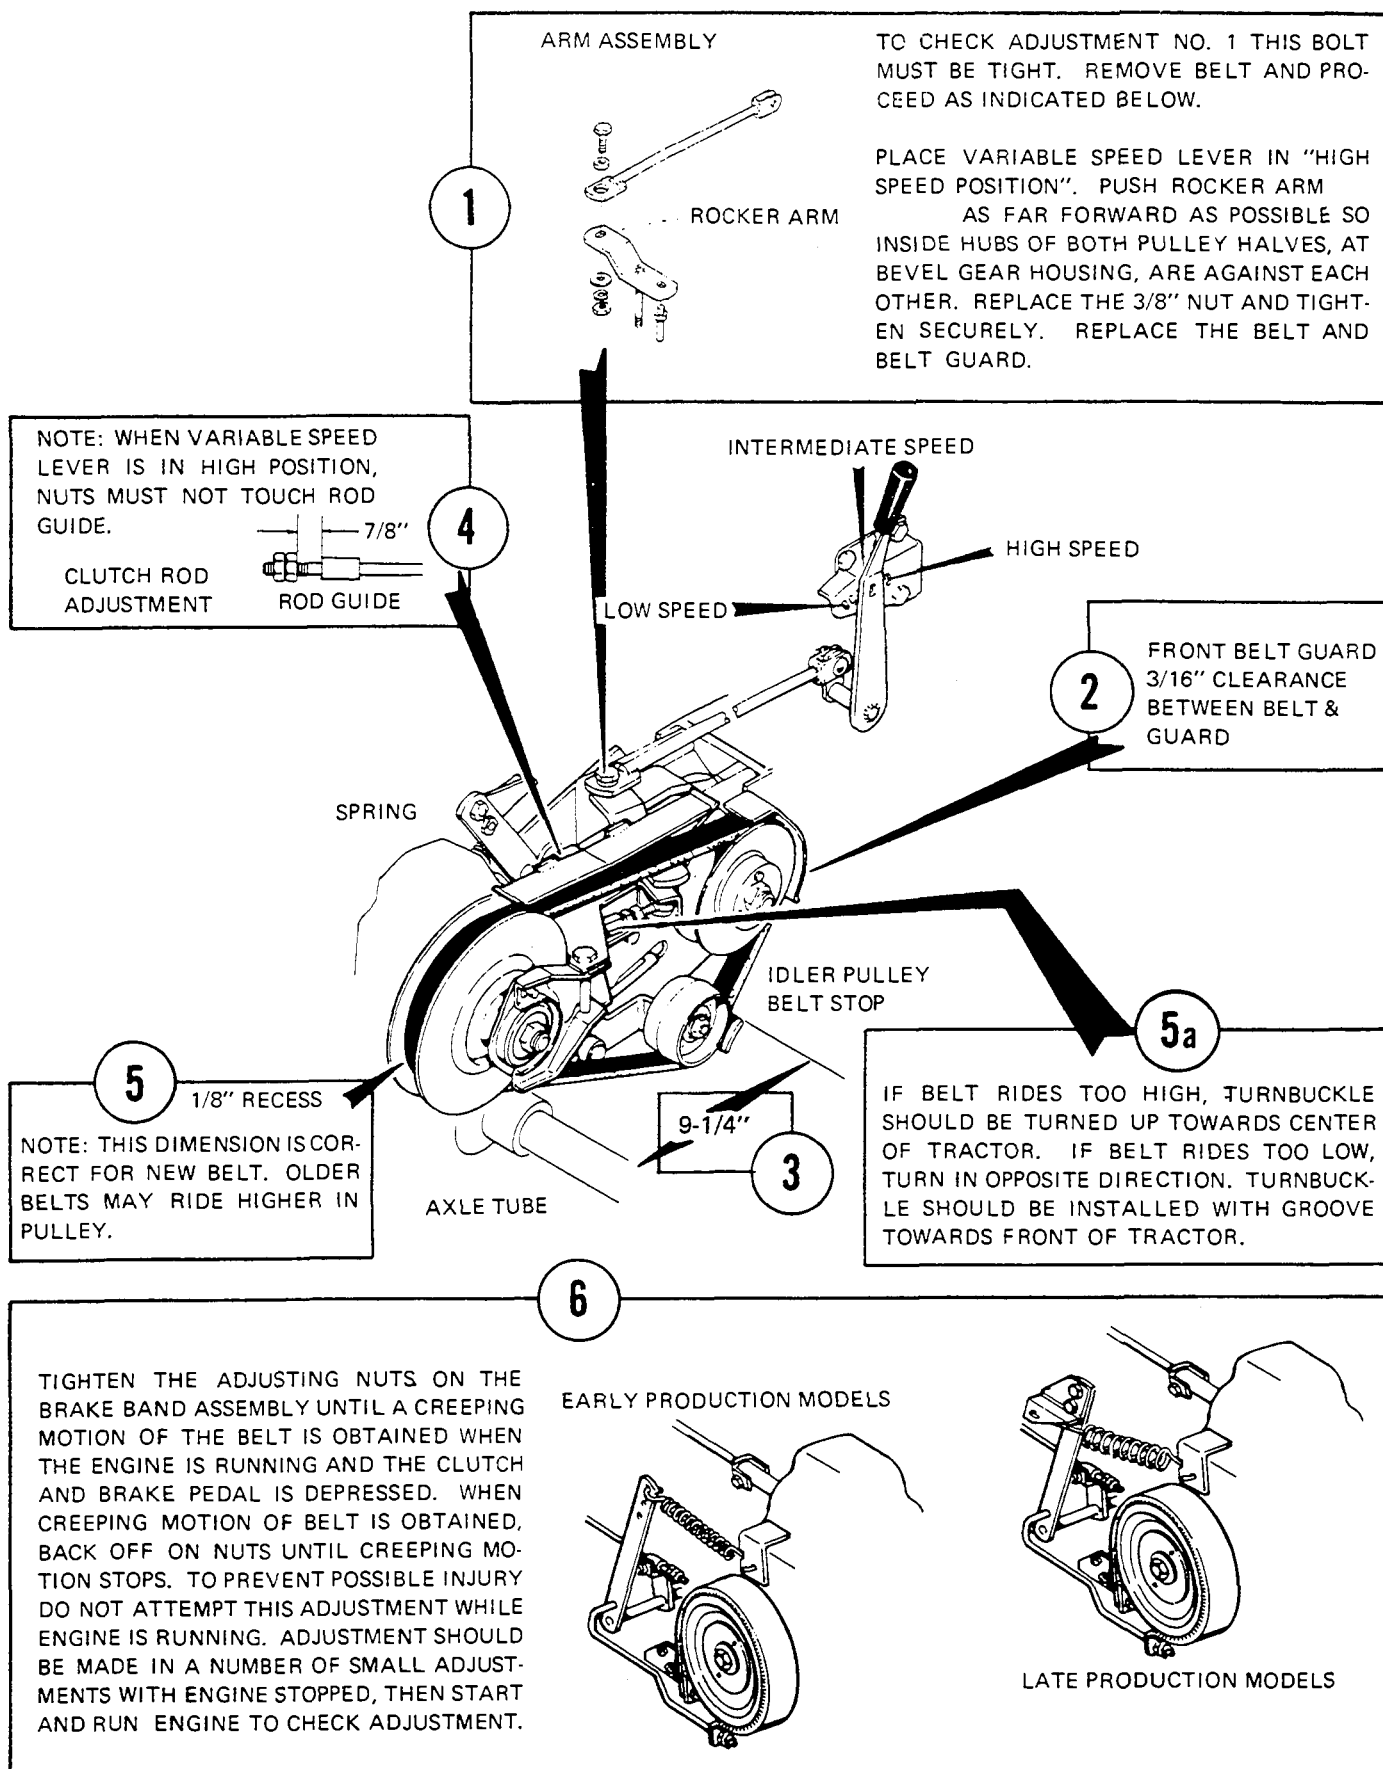

FIGURE 3
4. On early production models the spring is normally in the top hole. If less spring tension is desired, move spring to next lowest hole of pivot lever assembly. Less tension can be used when mowing on level terrain and if clutch pedal is found to be uncomfortably hard for the operator to depress. (See Fig. 3.) Greater belt tension is necessary to prevent variable speed belt from slipping when tractor and attachment are under heavy load. A slight chattering of the variable speed belt on the pulleys will be noticeable until the belt loses its stickiness and becomes smooth.